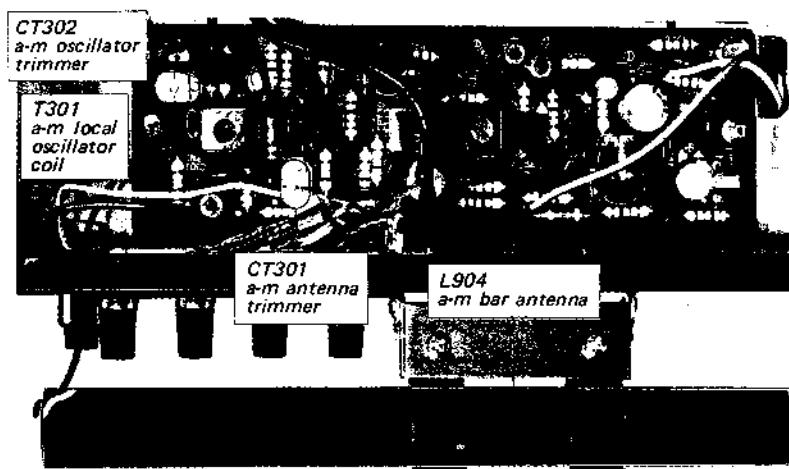

Fig. 3-10. Parts location
dial calibration error exceeds this limit, turn the local oscillator-coil T301 (see Fig. 3-10) slightly until optimum dial calibration is obtained.
2. Tune the receiver to the highest-frequency station in your locality. If the dial calibration error exceeds ± 30 kHz from the carrier frequency, adjust local-oscillator trimmer-capacitor CT302 (see Fig. 3-10) to obtain maximum calibration accuracy. Repeat the above steps two or three times.
2. Tune the set to the station whose carrier frequency is closest to 1,400 kHz and adjust antenna trimmer CT301 to obtain maximum output. See Fig. 3-10.